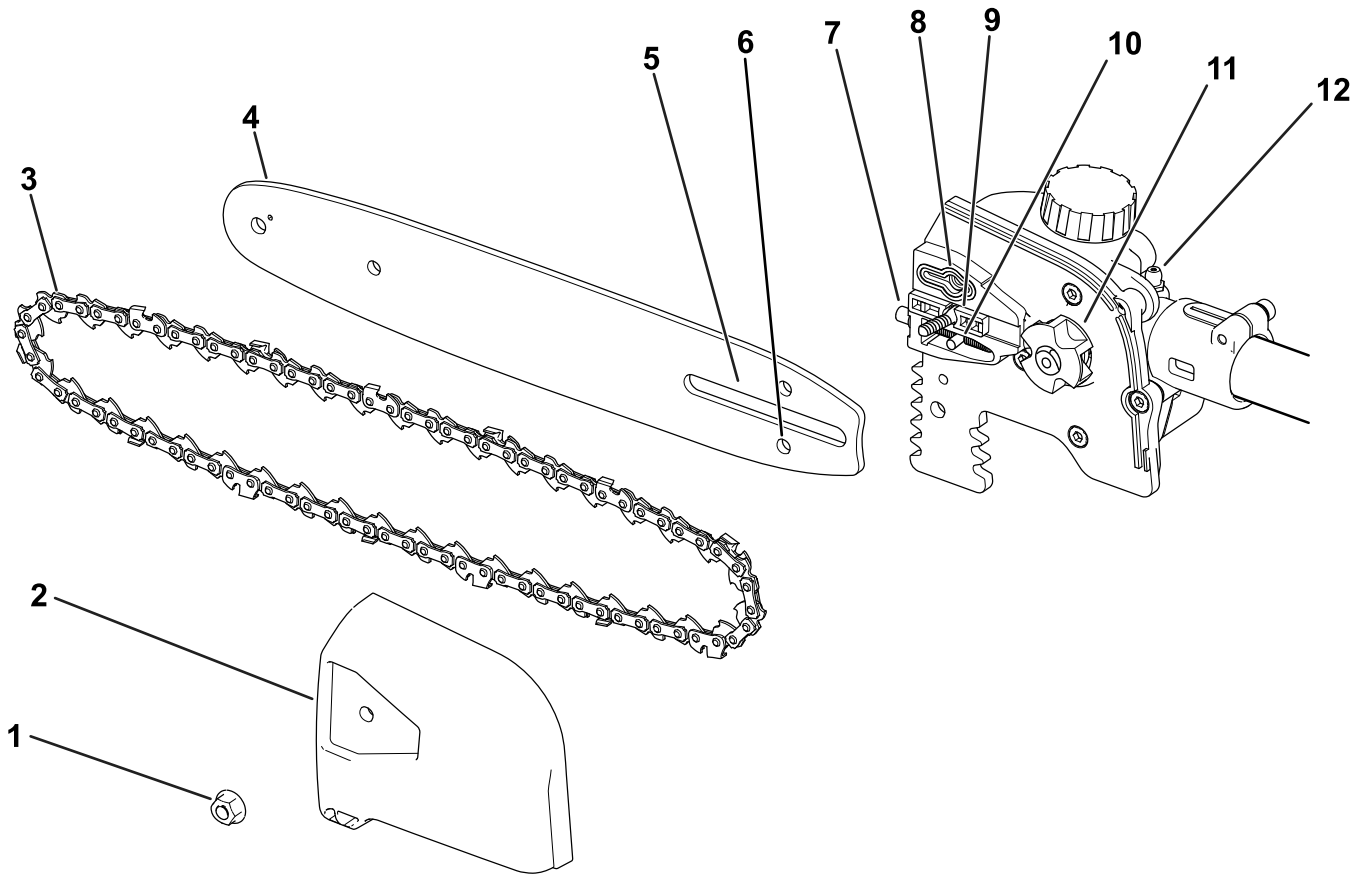

Figure 3
2. Remove the side cover; turn the bar cover screw counterclockwise until the screw is removed and then remove the side cover (Figure 3).
5. Position the open loop of the chain (the side not on the guide bar) around the drive sprocket on the pole saw (Figure 3).
Important: Ensure that the chain adjusting stud is inserted into the chain adjusting stud slot on the guide bar (Figure 3).